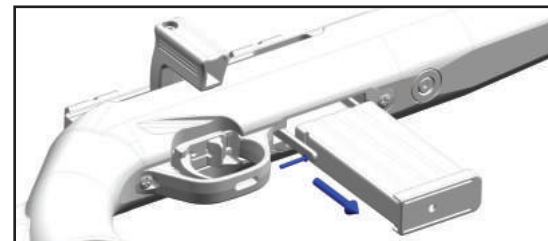

figure 5
1. Remove the empty magazine (figure 5).
2. Press the magazine release button to remove the magazine (figure 5 page 8).